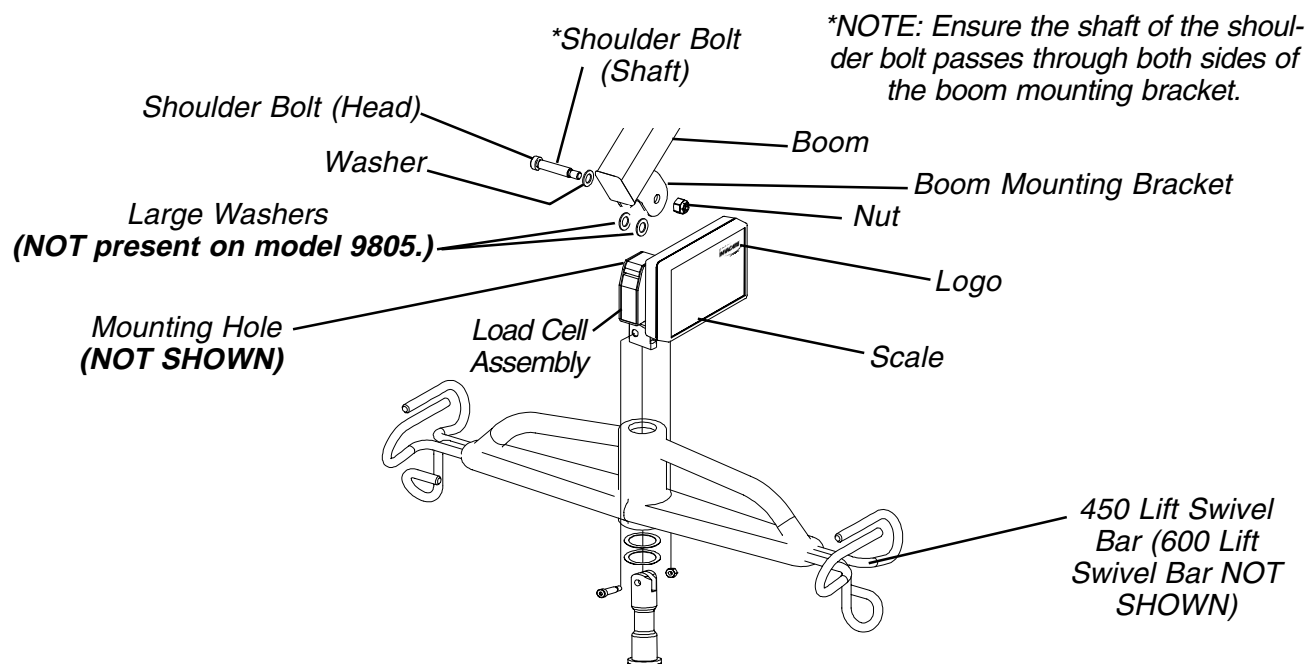

FIGURE 1 - CHECKING FOR PROPER SCALE INSTALLATION / INSTALLING WASHERS
CHECKING FOR PROPER SCALE INSTALLATION (FIGURE 1)
REPLACING WASHERS (FIGURE 1)
- Remove the nut, shoulder bolt and two (2) existing large washers securing the load cell assembly to the boom mounting bracket.
- Position the load cell assembly into the boom mounting bracket, with the scale facing the direction shown in FIGURE 1.